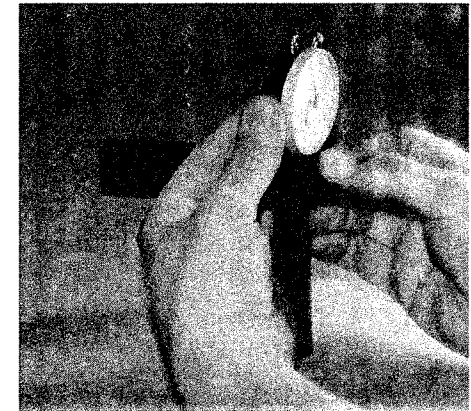

FIGURE 3
- A. As shown in Figure 3, with the *Indicator* on the *Indicator Holder*, and the proper number of tip extensions installed, place the tip of the *Indicator* down into the center hole of the *Setting Gage*.